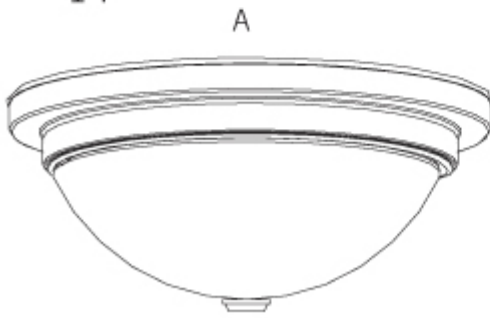

Fig. 2
3. Place the mounting bar (B) flush with the outlet box. Position the mounting holes in the mounting plate with the corresponding holes in your outlet box. Secure mounting bar in place using the mounting screws (h). Tighten with a screwdriver.
9. Position the canopy (E) over the mounting bar (B) so that the fixture mounting screws (f) go through the keyholes in center of canopy. Make sure the screws are at the bottom of the keyhole (Fig. 2)
13. To install the glass (C), position it over the mounting post and secure with the decorative finial (D).